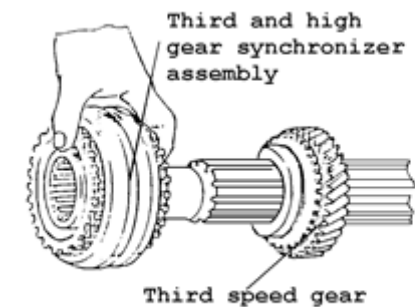

FIG. 11
- Remove the third and high speed synchronizer hub snap ring from the output shaft, and slide the third and high speed synchronizer assembly and the third speed gear off the shaft (Fig. 11 **on the next page**).